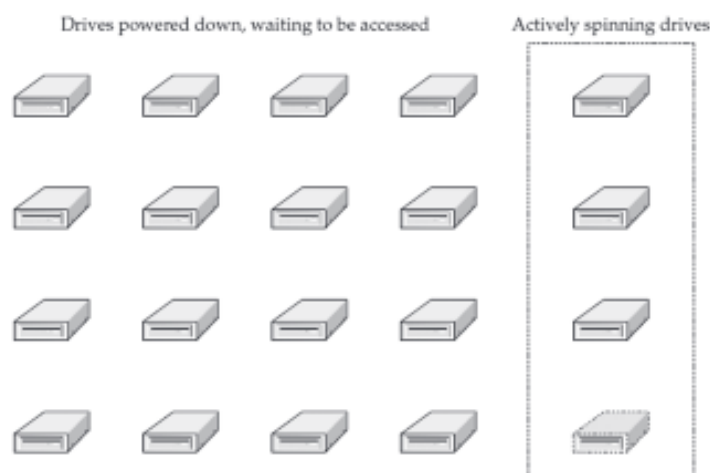

Fig. 4 In a MAID deployment, only a quarter of the disks are spinning at any one time.
- The MAID architecture is developed because of the introduction of SATA drives that are invented to be powered up and down. In a large deployment, MAID allows a dense packaging of drives, and typically only 25 percent of the disks are spinning at any given time, as shown in Figure 4. It resolves the problem of throughput.